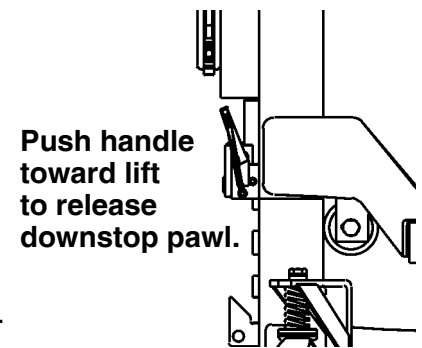

Figure 8
8. At each lift, release the downstop pawl by pushing the downstop release handle toward the lift. See Figure 8.